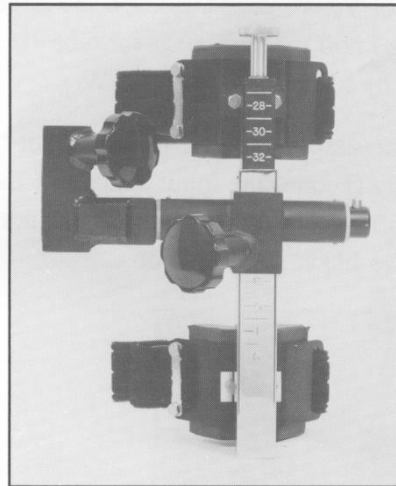

Figure 18
7. Fig. 18 shows the accessory and pivot tube assembly ready for use on a right knee.